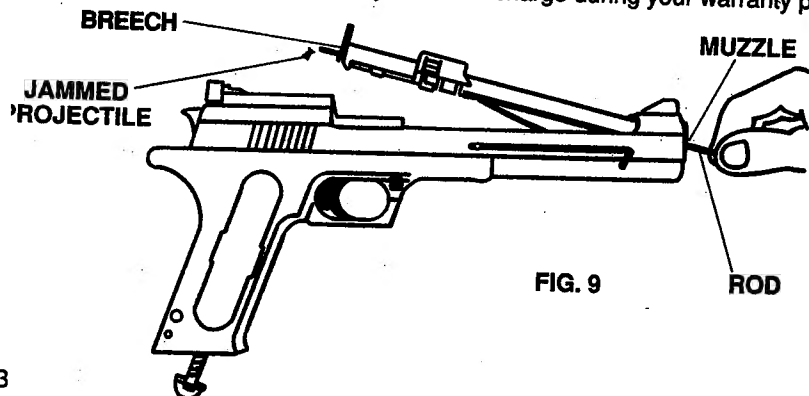

FIG. 9
- Push the jammed BB or pellet out the breech end of the pistol (Fig. 9)